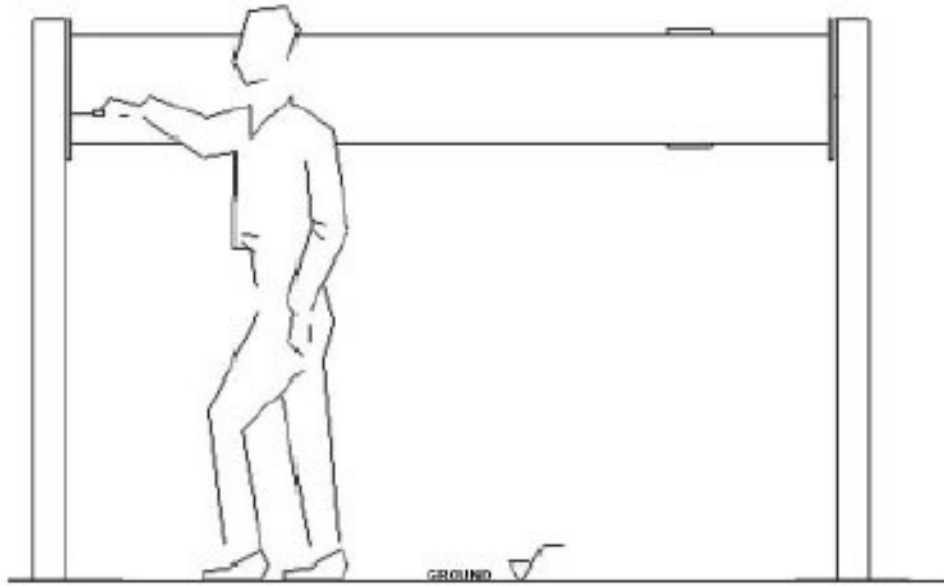

Fig. 3-2 Horizontal reciprocator installation
3. See Fig 3-2. Ensure that reciprocator is level horizontally, and is lined up correctly with the gun slot on the booth.